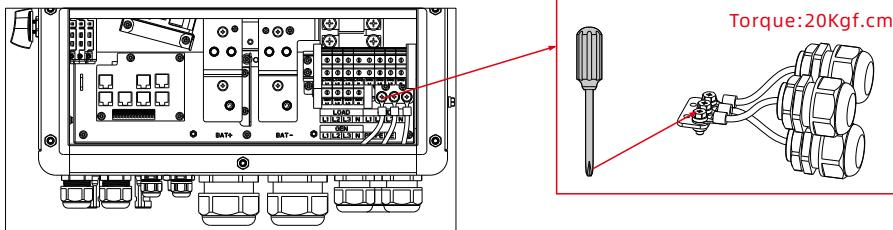

Fig 6.10 Grounding Schematic
- 2) Connect a ground cable to the copper grounding bar. Fig 6.10 shows the position of the grounding bar;
1. Connect the ground cable before connecting the battery cable; the ground point is shown in Fig 6.10.